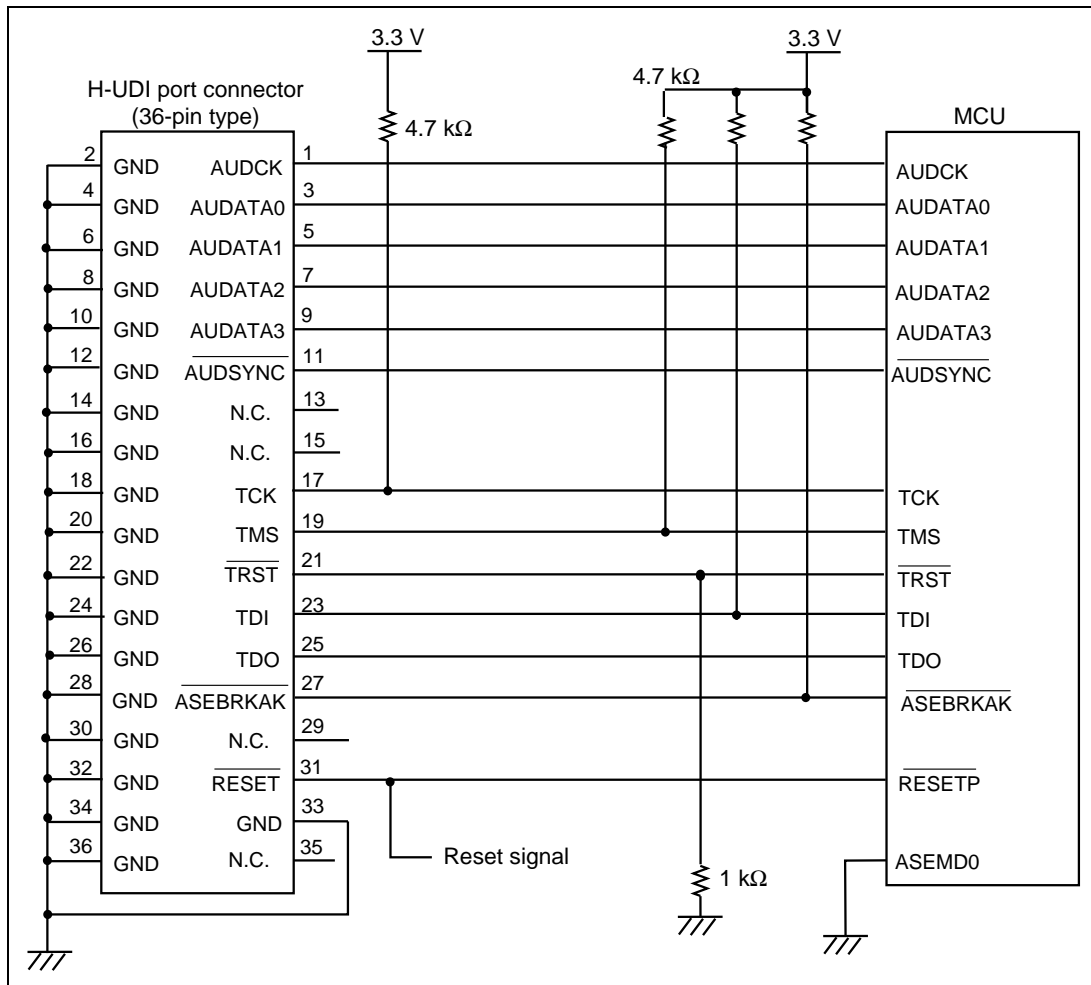

Figure 4.1 Recommended Circuit for Connection between the H-UDI Port Connector and the MCU when Using the Emulator (36-Pin Type)
Figure 4.1 shows a recommended circuit between the H-UDI port connector (36 pins) and the MCU.
- (1) When the emulator is used: /ASEMD = low (ASE mode)
- (2) When the emulator is not used: /ASEMD = high (normal mode)
6. The resistance values shown in figure 4.1 are recommended.